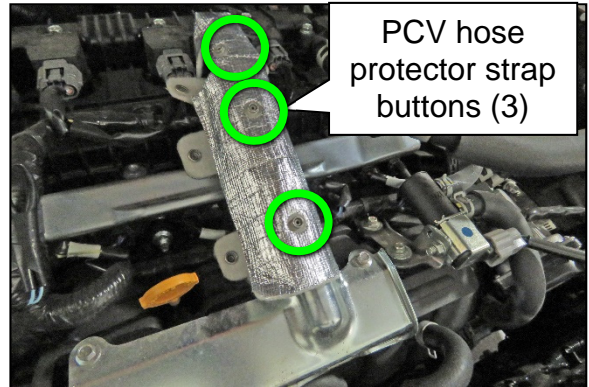

Figure 4
- Lift the PCV hose protector up and over the PCV hose so that the strap buttons are centered on top of the PCV hose, as shown in Figure 4.